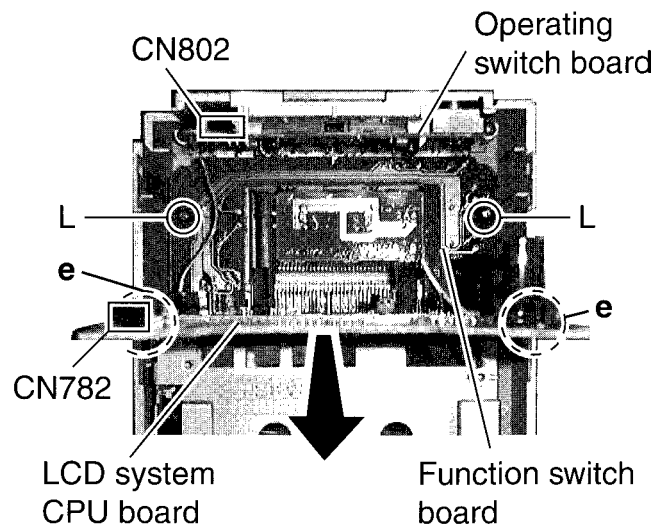

Fig. 15
■ Removing the function switch board and LCD system CPU board (See Fig. 15 and 16)